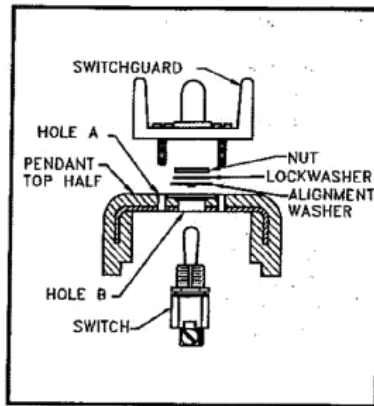

Figure 4
2. Toggle switch to be installed and locked in position with switchguard protection per figure 4.